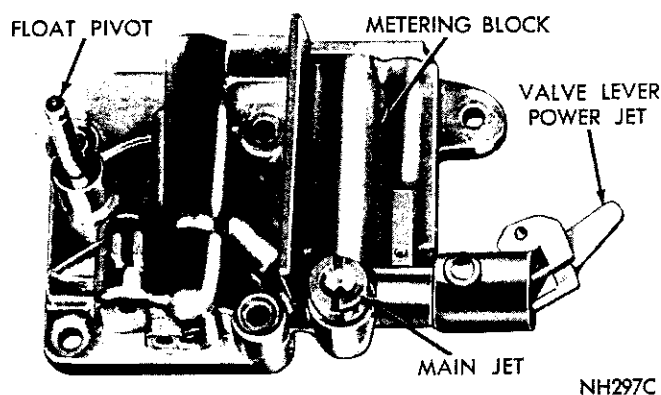

Fig. 9—Metering Block Assembly
- (11) Using Tool C-3748, remove main jet from metering block. (Fig. 9).
- (12) Using a suitable tool, remove pump lever retaining clip. Slide lever off pivot and disengage link from throttle lever.
- (13) Remove fast idle cam retaining screw, then remove cam, and at same time, disengage fast idle cam rod.
- (14) Remove plastic limiter cap from idle air mixture screw. (Be sure and count number of turns to seat the screw, as the same number of turns (from the seat) must be maintained at installation.) Remove screw and spring from throttle body. Discard plastic cap.
- (15) Remove fast idle and curb idle speed screws and spring from throttle lever.
- (16) Remove screws that retain bowl vent valve cover to air horn. Remove cover, then lift out valve and spring. (If so equipped.)
- (7) Install main jet in metering block, using Tool C-3748. (Fig. 9).